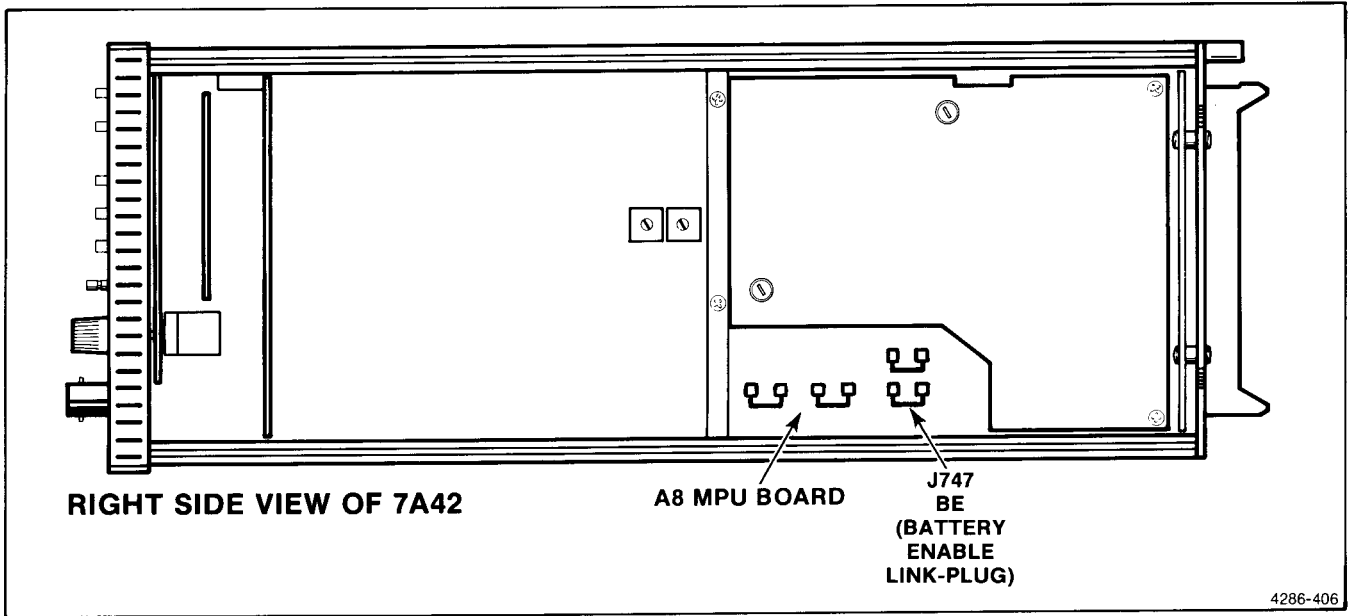

Figure 4-18. Location of the J747 BE (Battery Enable) link plug.
5. Remove the internal J747 BE (Battery Enable) link-plug to disable the battery backup feature. Refer to Figure 4-18. The removal of J747 permits the front-panel settings to be initialized to a known condition each time the oscilloscope mainframe power is turned off, then on. For this reason the “power off, then on” routine is used frequently throughout the following procedures.